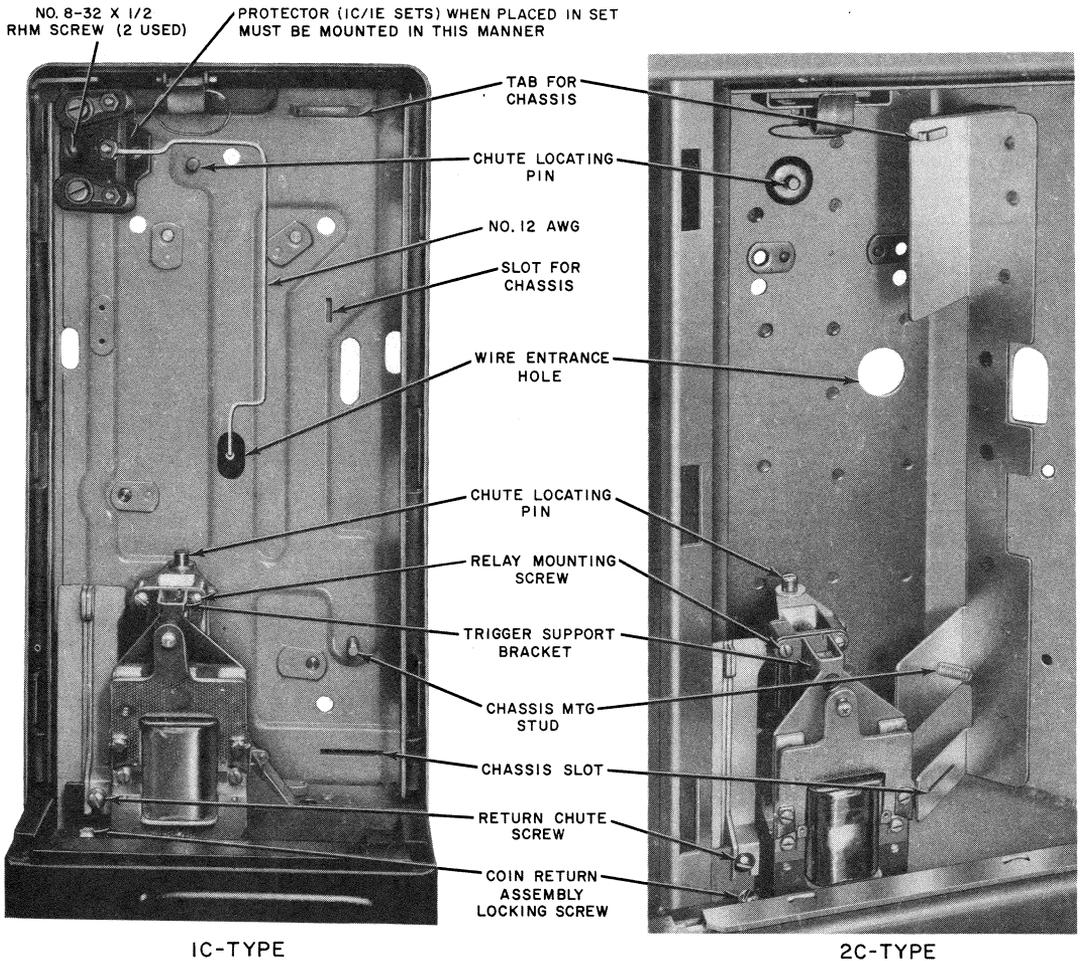

Fig. 13—Housing and Mounting Plate Assembly
- (1) Place chute on locating pins at rear of hopper assembly, and back of housing (Fig. 13).
- (2) Place spring in groove on chute.
- (3) Lock spring in place by pushing chute locking lever down.
- (4) Connect totalizer plug P2 to J2.
(1) Slide chassis under tab (Fig. 13).